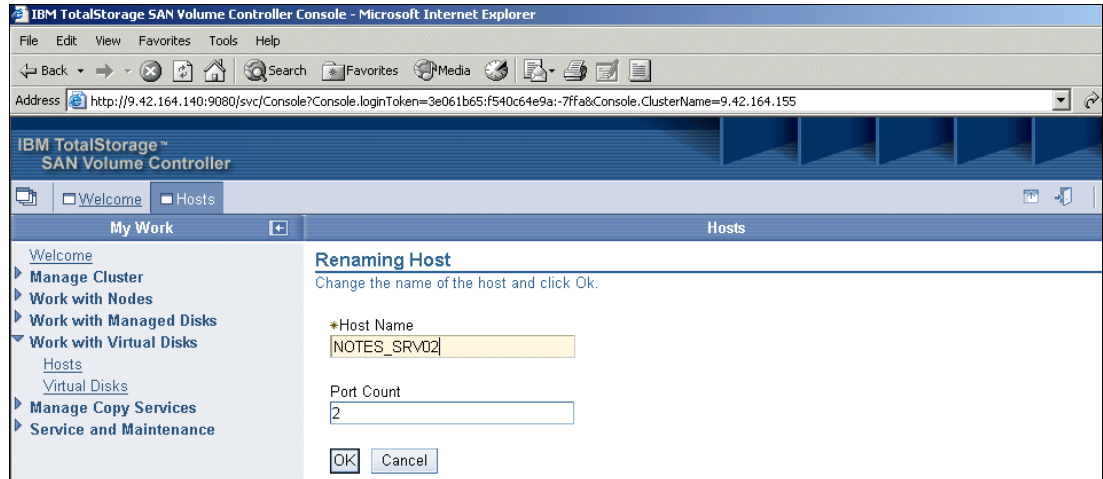

Figure 9-54 Renaming a host
2. From the Renaming Host panel (Figure 9-54), type the new name you want to assign and click **OK**.